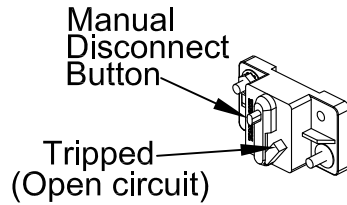

Figure 2: Manually trip circuit breaker.
2. Lower the liftgate to the ground (liftgate now shown). To avoid a risk of a 12 volt electrical short, disconnect the #4 power cable from the positive side of the battery or manually trip the circuit breaker (Figure 2).